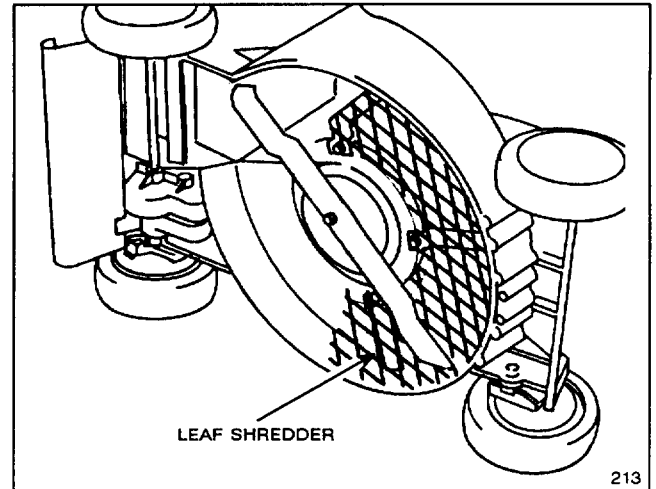

Figure 35
**3. Leaf Shredder Kit, Model No. 59180**—Installs on underside of mower in minutes without requiring removal of blade. Shreds leaves into small pieces for clean vacuuming into grass bag and convenient disposal (Fig. 35).